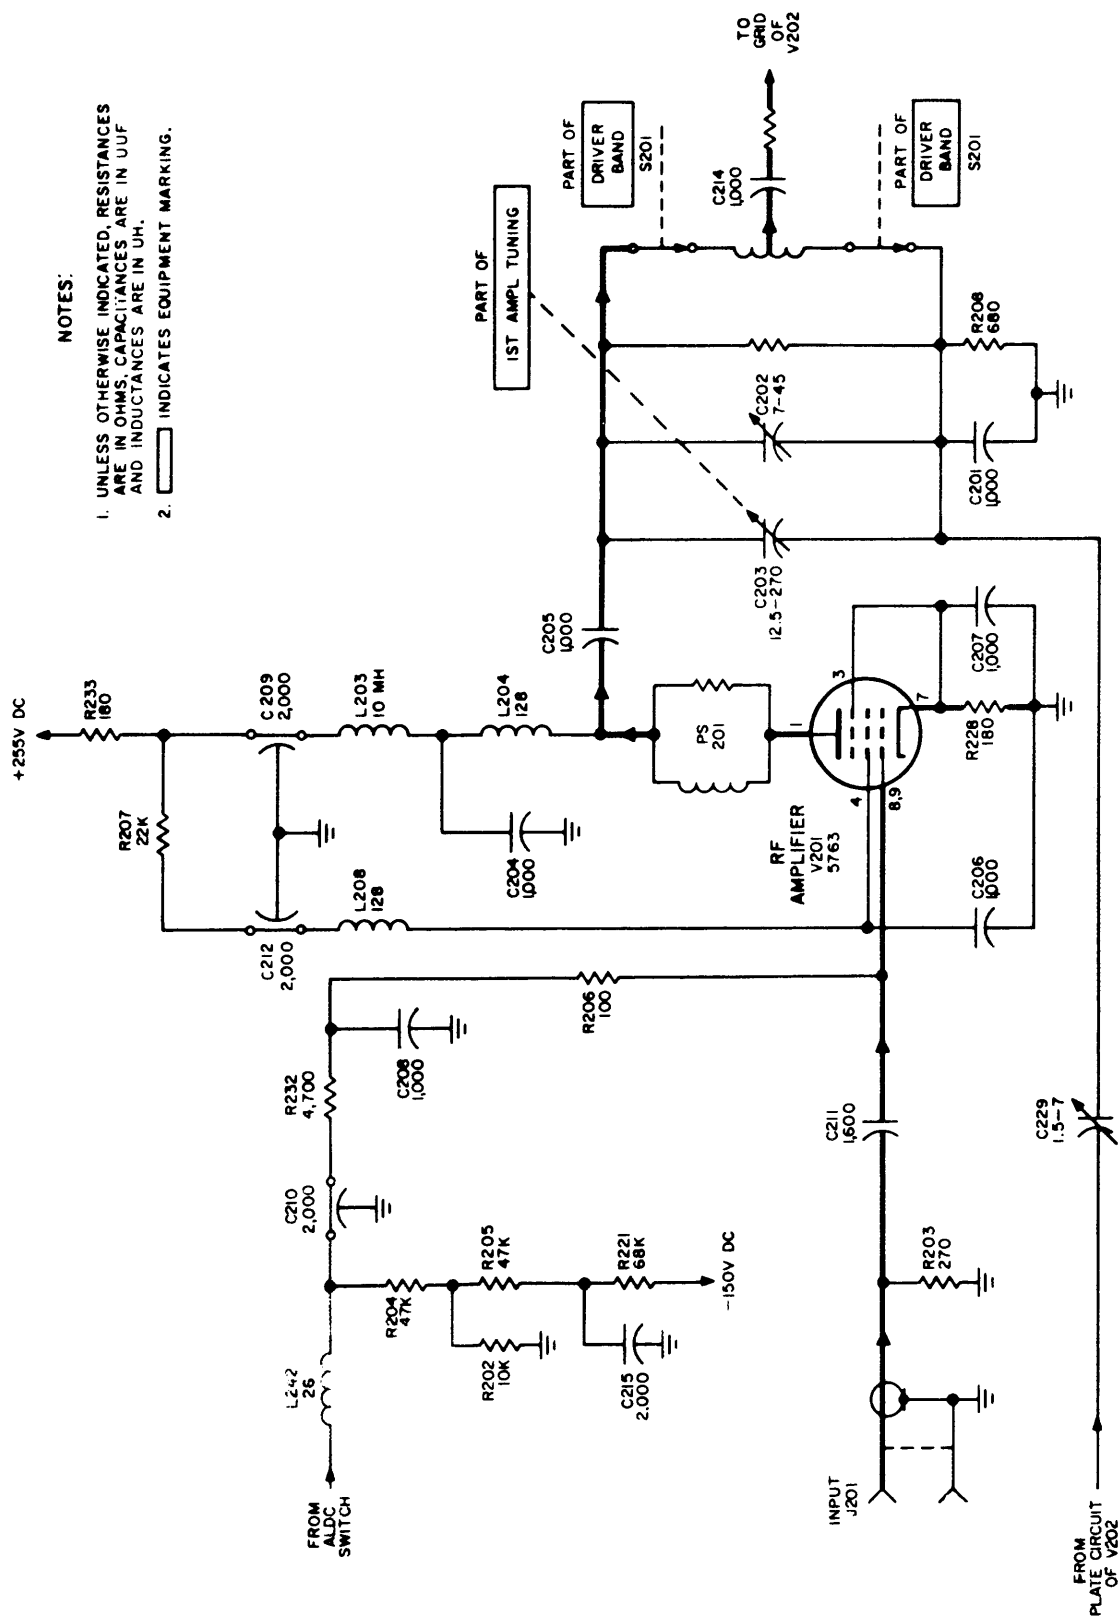

Figure 4-2. Simplified Schematic Diagram, V201 RF Amplifier, RFD-1A
The complete RFD-1A schematic wiring is shown in figure 8-1. Paragraphs 4-2b through 4-2f with accompanying figures 4-2 through 4-5 give a brief description of circuit action. In figures 4-2 through 4-5, heavy lines indicate path of signal. The function of each individual component may be found in Section 7 (Parts List).
b. RF AMPLIFIER STAGE V201 AND ASSOCIATED CIRCUITS (See figure 4-2).
(1) Amplification and Tuning. External exciter input is amplified at V201 (Class A) and proceeds, via a tuned circuit, to the control grid of V202. The tuned circuit consists of C202, C203 and a tapped inductor selected by S201 DRIVER BAND switch. Fine-tuning is accomplished by adjustment of 1ST AMPL TUNING capacitor C203.
(2) ALDC. Negative ALDC feedback from V203 (see paragraph 4-2d) is supplied to the grid return circuit through L242.